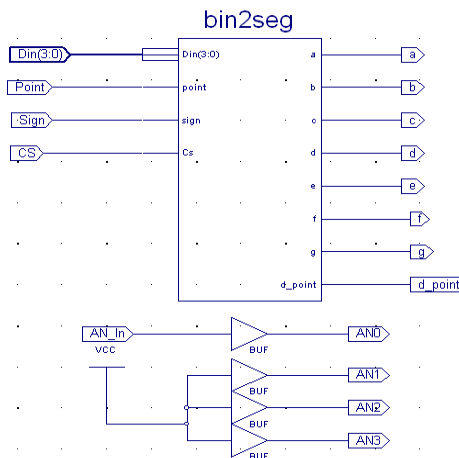

Figure 7
7. Create a new schematic similar to Figure 7.